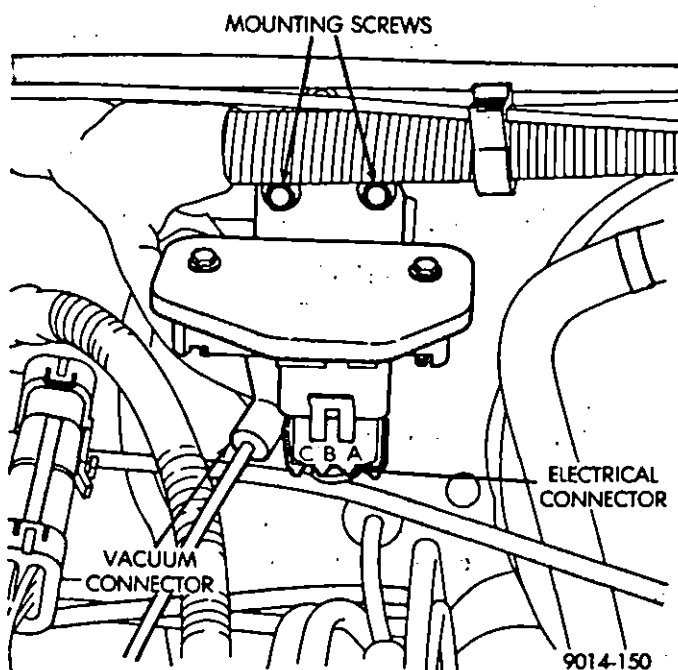

Fig. 15—MAP Sensor Removal/Installation
The Manifold Absolute Pressure (MAP) Sensor is located on the dash panel, next to the Brake Power Booster (Fig. 15).
- (1) Disconnect electrical connector from MAP sensor (Fig. 15).
- (2) Disconnect vacuum hose from MAP sensor.
- (3) Remove MAP sensor mounting screws.
- (4) Remove MAP sensor.